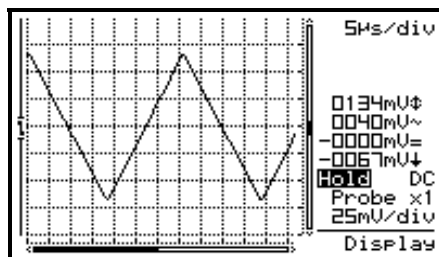

Fig 12
- A **full grid** divides the screen into reference lines. (Fig. 12)